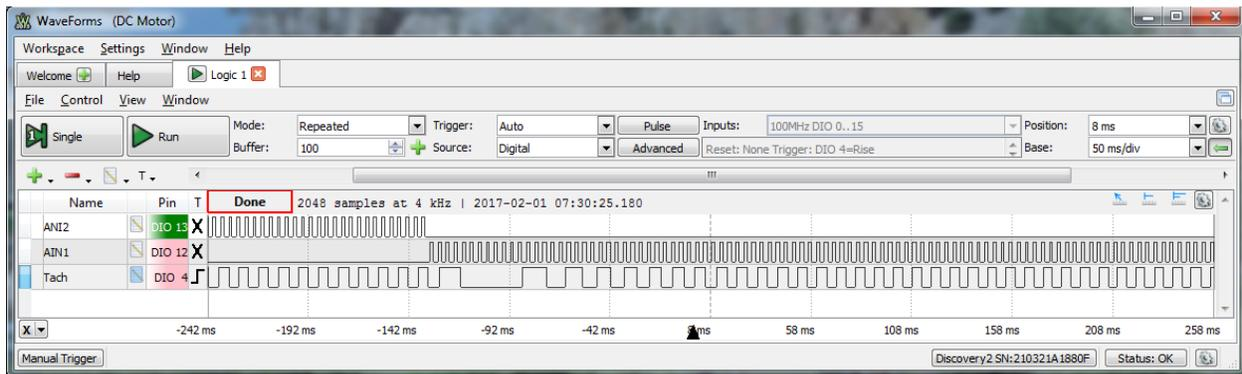

Figure 7.1. Motor speed response for a step input from CW to CCW at 30% PWM for PI closed-loop control.
Figure 7.1 was generated by monitoring the motor tachometer using the SPI\_CK DIO 4 pin on the Analog Discovery 2 connector that is toggled in the input capture ISR, as shown in Listing B.4 of Lab 6a. Examining the plot for the tachometer in Fig. 7.1, we see that the PI algorithm requires about 150 ms to achieve steady state.
2. Why does Fig. 7.1 show that the motor decelerates more quickly than accelerate?